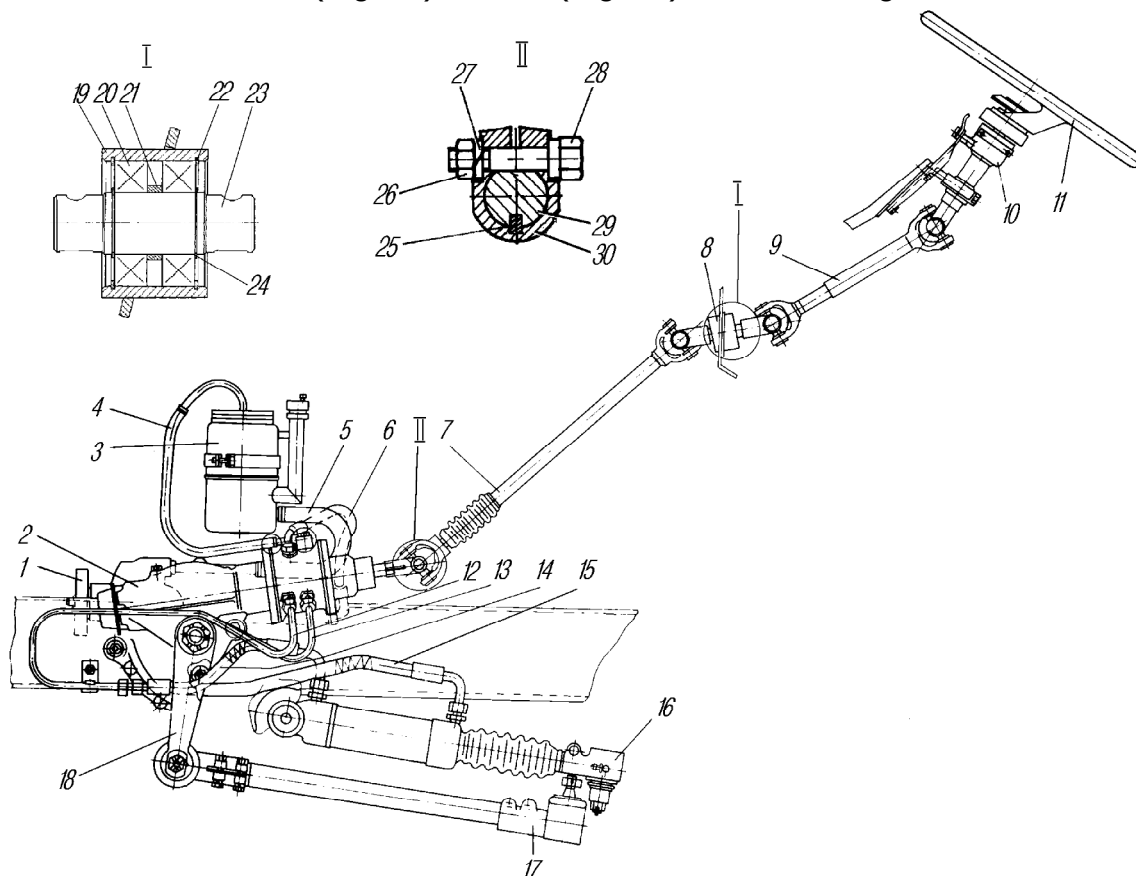
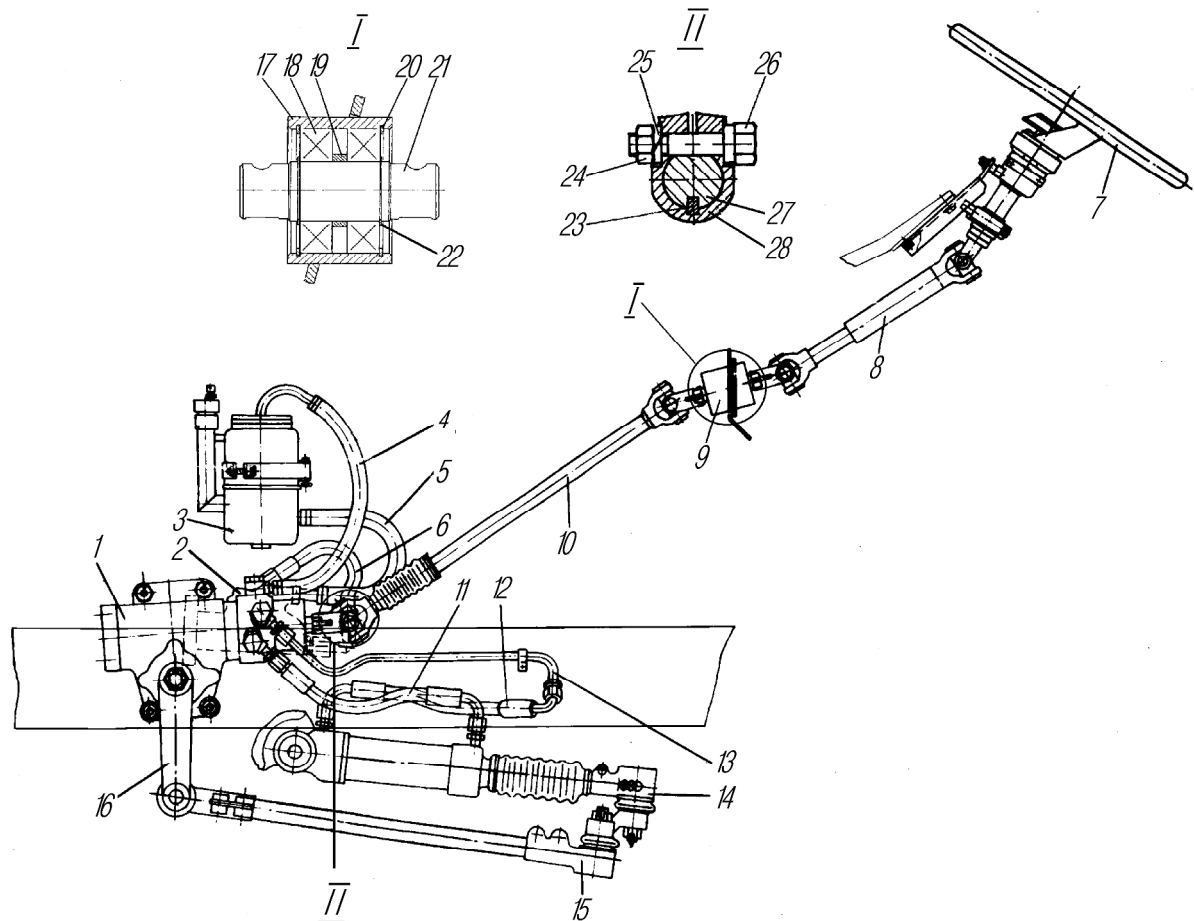
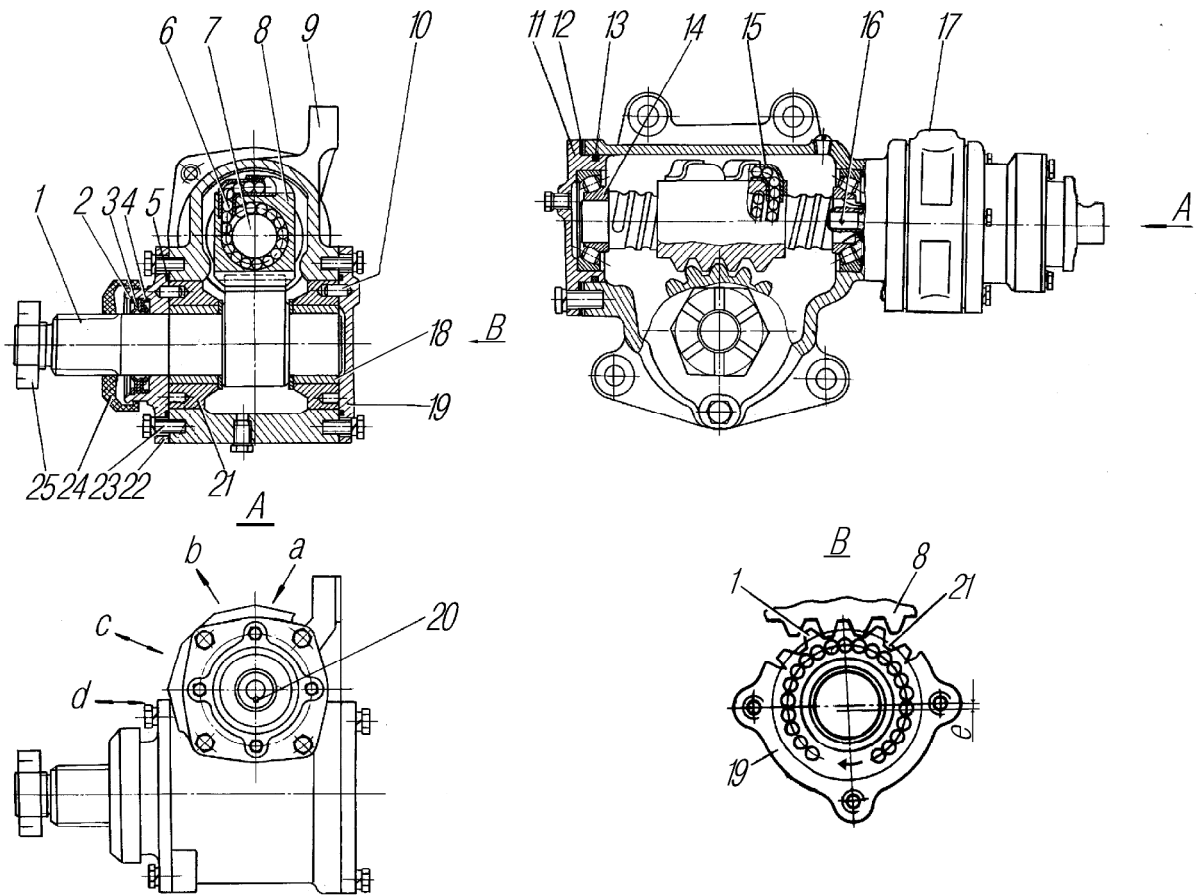
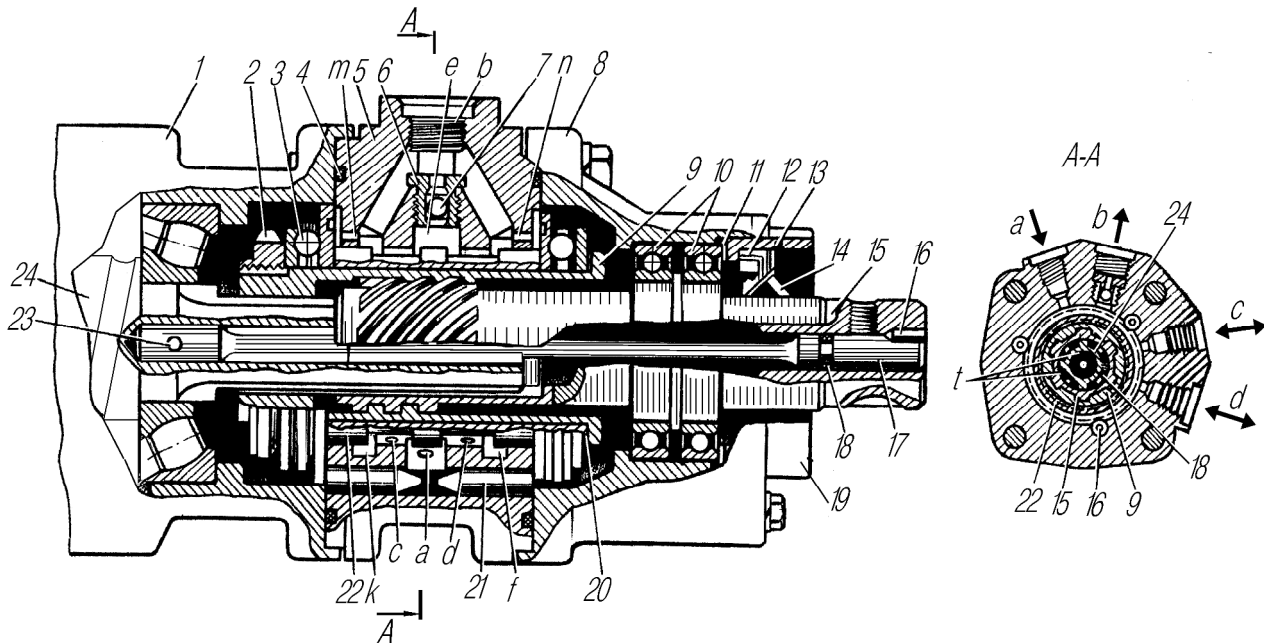

Fig.56. Steering with Steering Gear of "Worm - Side Segment" Type:
Fig.57. Steering with Steering Gear of “Screw - Ball Nut – Rack - Segment” Type:
Fig. 59. Steering Gear ("Screw - Ball Nut - Rack - Segment" Type):
Fig. 60. Distributor of Steering Booster:
Two variants of steering can be applied on the trucks: with steering gear of "worm - side segment" type, or of "screw - ball nut - rack - segment" type. In this case cardan shafts 7 (Fig. 56) and 10 (Fig. 57) differ in length.
The steering column is connected with the steering gear by cardan shafts via center support 8 (see Fig. 56). Lubrication - free bearings of closed type are applied in the center support design.
Steering gear with distributor (Fig. 59) comprises screw 7 and ball nut - rack 8 engaged with segment 1. Semicircular spiral grooves available on the screw and nut - rack form a channel. During assembly of the steering gear the channel is filled with high - accuracy balls 6.
The distributor (Fig. 60) is mounted on the steering gear. Three annular grooves "e", "k" and "f" are available in slide valve body 5. The center groove "e" is connected with channel "a" to supply the working fluid from the pump, while the outer grooves "k" and "f" with channel "b" to return the working fluid for drain.
The working fluid arrives at the center groove "e" (see Fig. 60). As in this slide valve's position grooves "e", "k" and "f" are interconnected, the oil, by filling the grooves and reaction chambers, drains from the distributor into the oil tank through outer grooves "k" and "f" and hole "b".
When turning the steering wheel, for example, to the right, bushing 9 and slide valve 22 fitted on it are shifted axially to the left (to steering gear) due to screwed joint. Early in the movement as pressure in the hydraulic system is not high the force on the steering wheel is produced by torsion twisting, which is acting directly onto shaft 15. In so doing, the screwed joint is shifting the slide valve being practically unloaded. When the slide valve is displaced by an amount limited by backlash "t" in the splined joint, the working fluid supply to annual groove "f" is cut off. The fluid is delivered from the pump to the centre groove "e" and then via channel "d" in the body and pipes gets into the other than rod chamber of booster 14 (see Fig. 57).
From the rod chamber of the booster the fluid gets via pipes, distributor channel "c" (see Fig. 60) into annual groove "k" and then via hole "b" drains into the tank.
In the steering gear (see Fig. 59) adjust preload in bearings 14 and clearance of meshing of nut - rack 8 with segment 1.
1. Prior to adjustment of preload in bearings 14 grip the steering gear in the vice by the case ears and disconnect cardan joint 28 (see Fig. 57). Cranking shaft 15 (see Fig. 60) bring nut - rack 8 (see Fig. 59) and segment 1 in one of extreme positions. Determine the torque needed for cranking through shaft 15 (see Fig. 60) from the extreme position to the middle one (crank the shaft by an angle of about 30 °). Should the torque be less than 0.9 N m (0.1 kgf m), so adjust preload in bearings 14 (see Fig. 59) by reducing the number of shims 12. After adjustment the torque needed for cranking through shaft 15 (see Fig. 60) should lie within 0.9 - 1.5 N m (0.1 - 0.15 kgf m).
Rocking the pitman arm from side to side determine, if the clearance is available (knock in the meshing indicates its availability). Clearance availability can be also determined by cranking shaft 15 to the left or to the right until torsion 17 begins to twist the segment being fixed. To adjust the meshing remove the pitman arm, covers 19 (see Fig. 59) and 22 and turn inserts 21 together with bearings 18 clockwise (when viewing on the side of the segment shaft) by one and the same angle to eliminate meshing clearance. After turning the inserts one of the insert holes should lie in the plane passing through the opposite threaded holes in case 9 for fastening covers 19 and 22. Fit the covers in such a manner that catches 10 enter the holes in inserts 21 and lie opposite each other. Should the catches fail to match with the holes insignificantly, turn the inserts to one or the other side until matching the catches and the holes. See that no clearance is available in the meshing. Upon adjustment when fitting covers 19 and 22 the latter may be turned by 90 °, 180 ° and 270 ° about their previous position.
After the covers are fitted the torque needed for cranking through shaft 15 (see Fig. 60) in its mid - position should lie within 2.7 - 4.1 N m (0.27 - 0.41 kgf m).